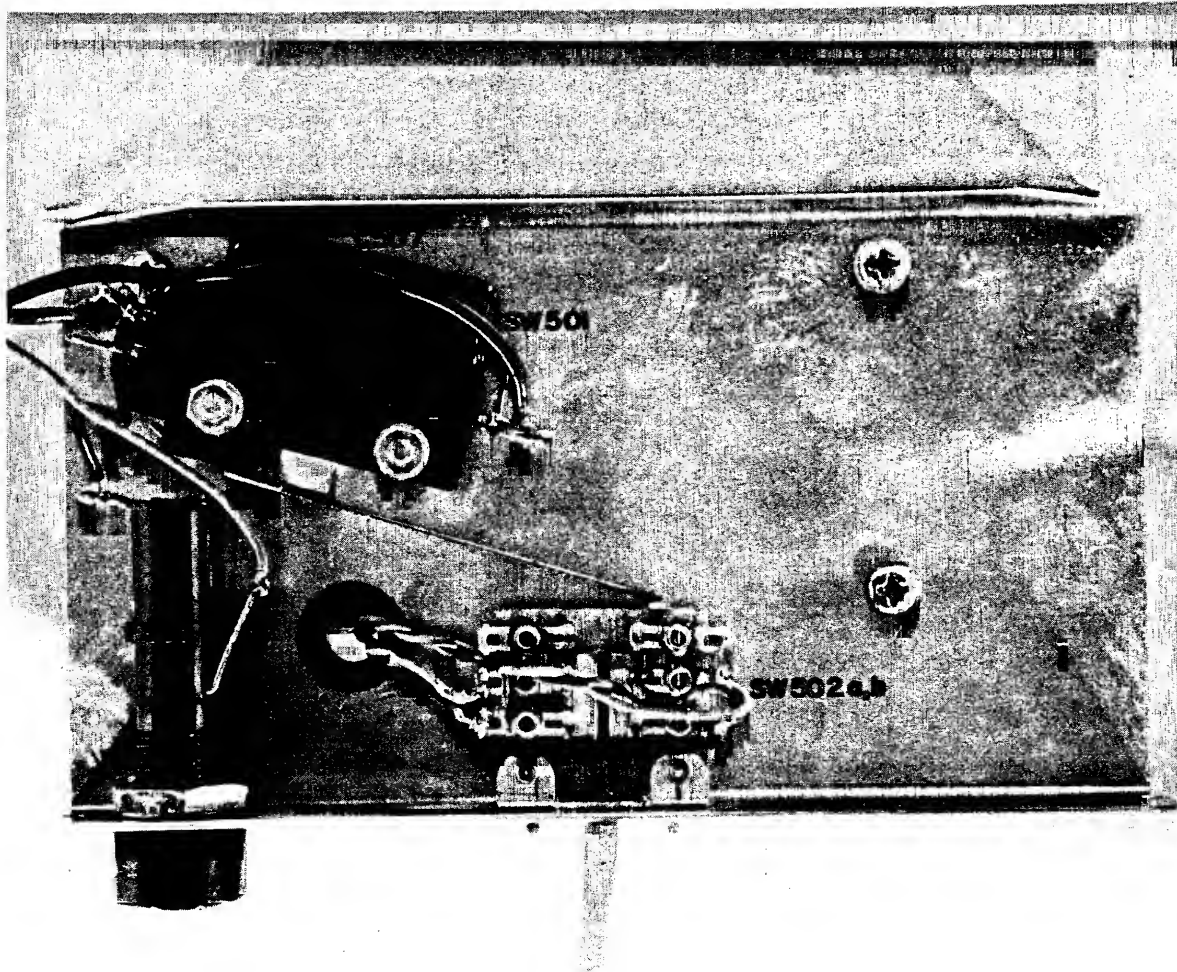

FIGURE 4-8 AC AND OUTPUT SWITCH DETAILS
1. Adjust A-C switch and output shorting switch contacts. Short on SW 501 ab. should be maintained while switch SW 501 C in either direction (see figure 4-8).